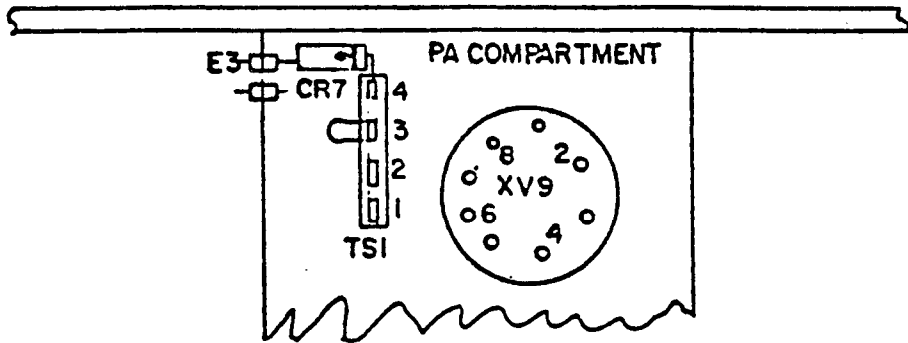

Figure 1. Location of Components Affected by this Modification.
5. If screen grid emission is present, remove bus wire that is connected from terminal E3 (feedthrough terminal located near rear apron in PA grid box) to terminal 4 of terminal strip TS1. Install in its place a 1N1490 diode (353-1659-00) with anode connected to E3. Refer to figures 1 and 2.